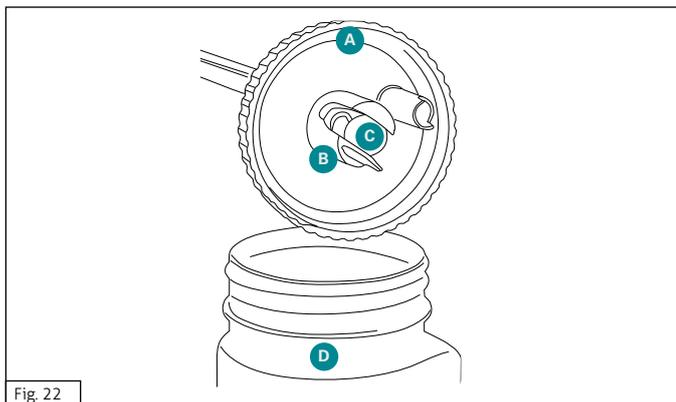

Fig. 22
2. Remove the ball before performing the following cleaning instructions (fig. 22(C)).
6. Assemble the dry components according to fig. 22.